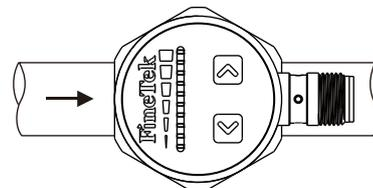

Fig. 4
4. Must secure the mounting is firmly locked to avoid the danger of liquid leakage from the pipe. To ensure the optimal sensitivity and response time, it should be installed in the direction as shown in Figure 4.